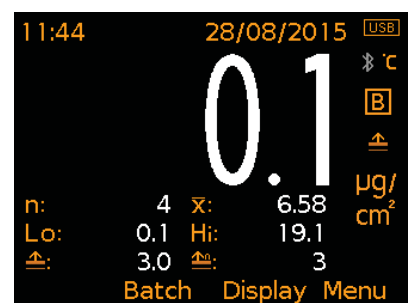

Fig. 3: Readings x1 & Selected Statistics
- **Selected Statistics** (Fig. 3); Up to 8 statistical values can be displayed, as defined by the user, via Display/Statistics/Select Statistics. Select from: